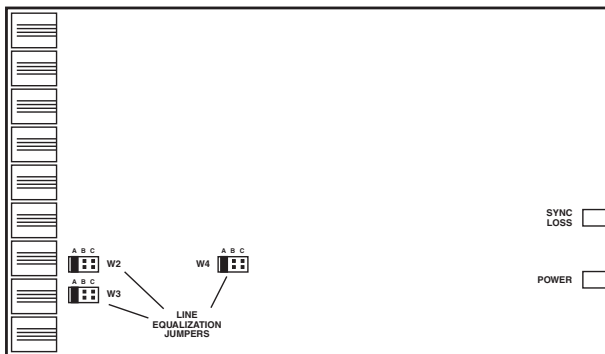

Figure 3. Line Equalization Jumpers.
2. Set the Line Equalization jumpers (W2, W3, and W4 in Figure 3) for the distance between the two Local TDM-8s. See Table 1 for the jumper position settings for various distance ranges. These are *recommended* settings. The *ideal* (theoretical) ranges are listed in Table 2, merely for your reference.